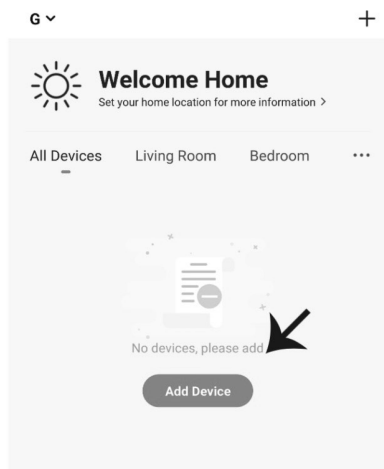

Fig 4
Step 6: Tap on ‘Add Device’ or the + sign. Make sure the device is switched on (Figure 4).